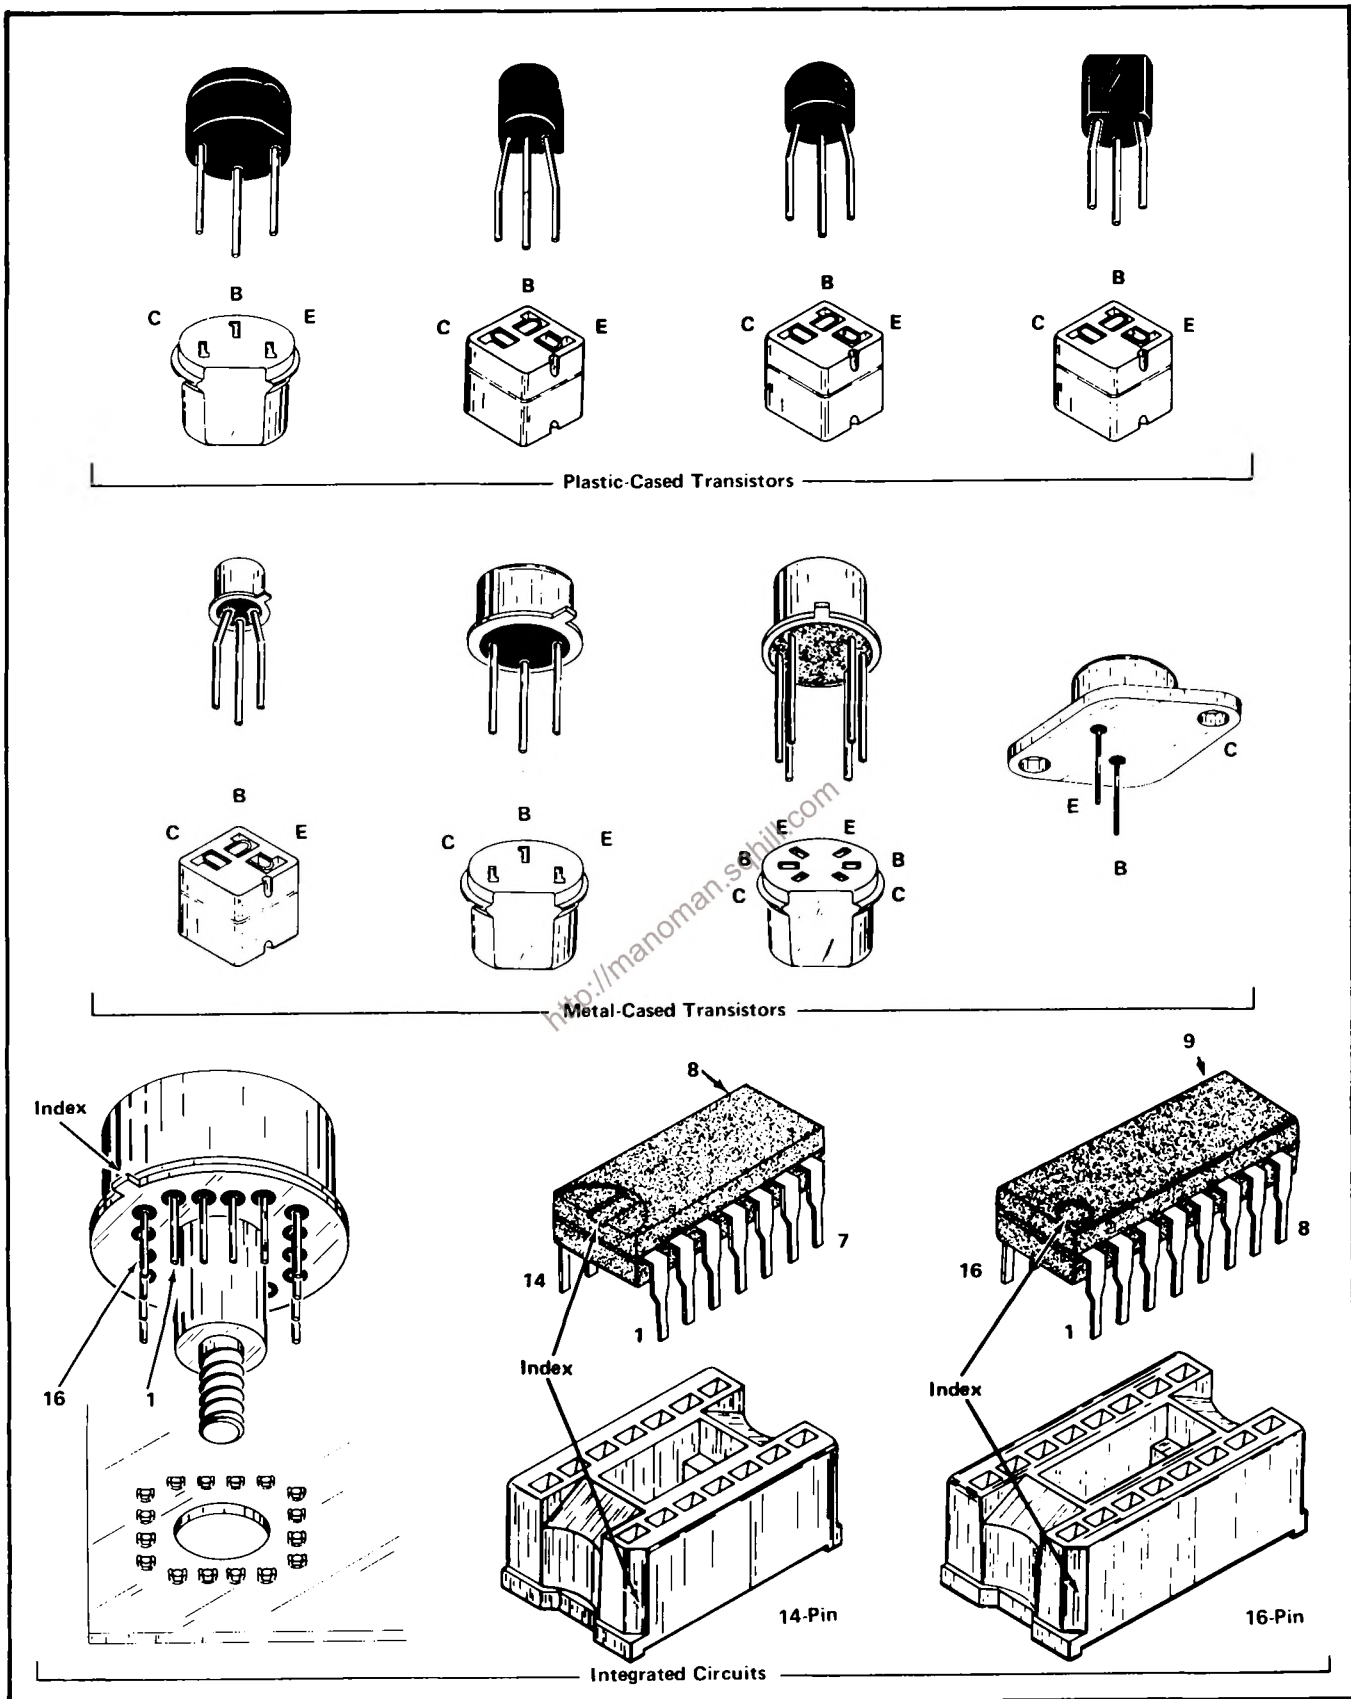

Fig. 5-5. Electrode configuration for semiconductors used in this instrument.
**Semiconductor Lead Configuration.** Fig. 5-5 shows the lead configuration for the semiconductors used in this instrument. This view is as seen from the bottom of the semiconductors.